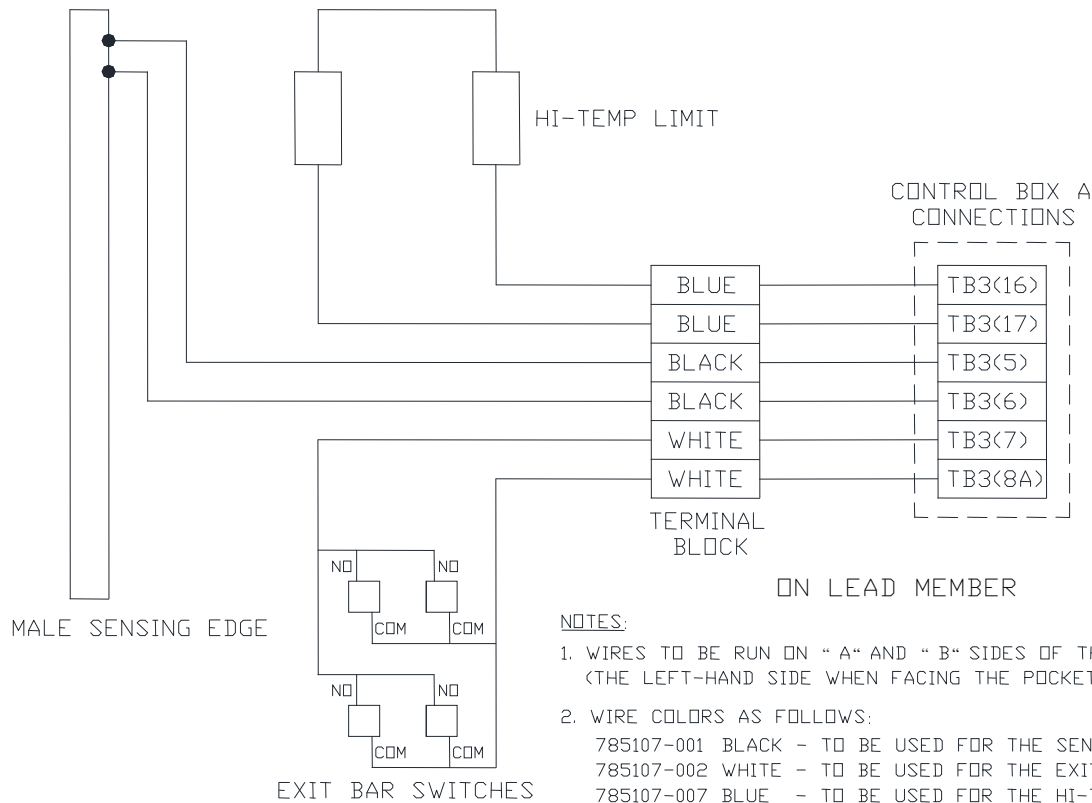

Figure 4a. Lead Post Wiring Diagram (Single-Slide Doors)
- Single-Slide doors: **Figure 4a.**